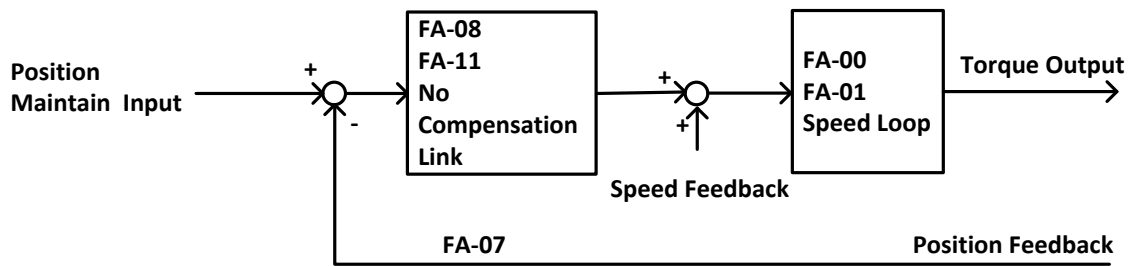

FIGURE 6.16: FLOWCHART FOR ELEVATOR STARTING WITHOUT LOAD COMPENSATION
- 1) Principles: As can be seen in figure 6.16 below, when brake open, based on the position feedback from Sine/Cosine PG card, system can calculates the necessary torque required for motor to remain the steady position under current load, and it gives corresponded torque at once to minimize the traction sheave movement and to achieve comfortable start.